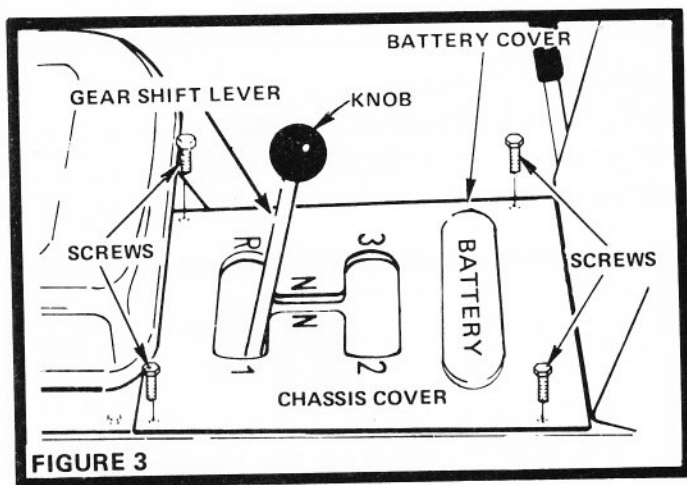

FIGURE 3
- a. Remove Knob from Gear Shift Lever by unscrewing counterclockwise (Fig. 3).
- d. Screw the Knob onto the Gear Shift Lever as shown in Fig. 3.
3. Place Gear Shift Lever in "N", (Neutral) position (Fig. 3).
3. Move Gear Shift Lever to "1ST" Gear (Fig. 3).
For pushing or towing your tractor, place Gear Shift Lever in "N" (Neutral) position (Fig. 3). **NOTE: DO NOT TOW YOUR TRACTOR FASTER THAN SIX MILES PER HOUR.**
1. Remove Chassis Cover (Fig. 3).